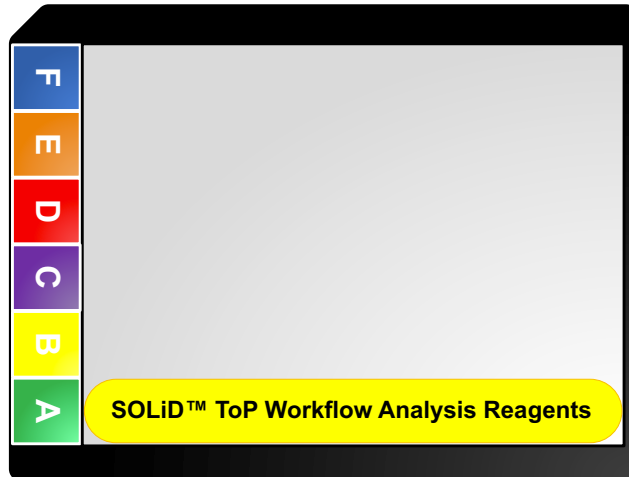
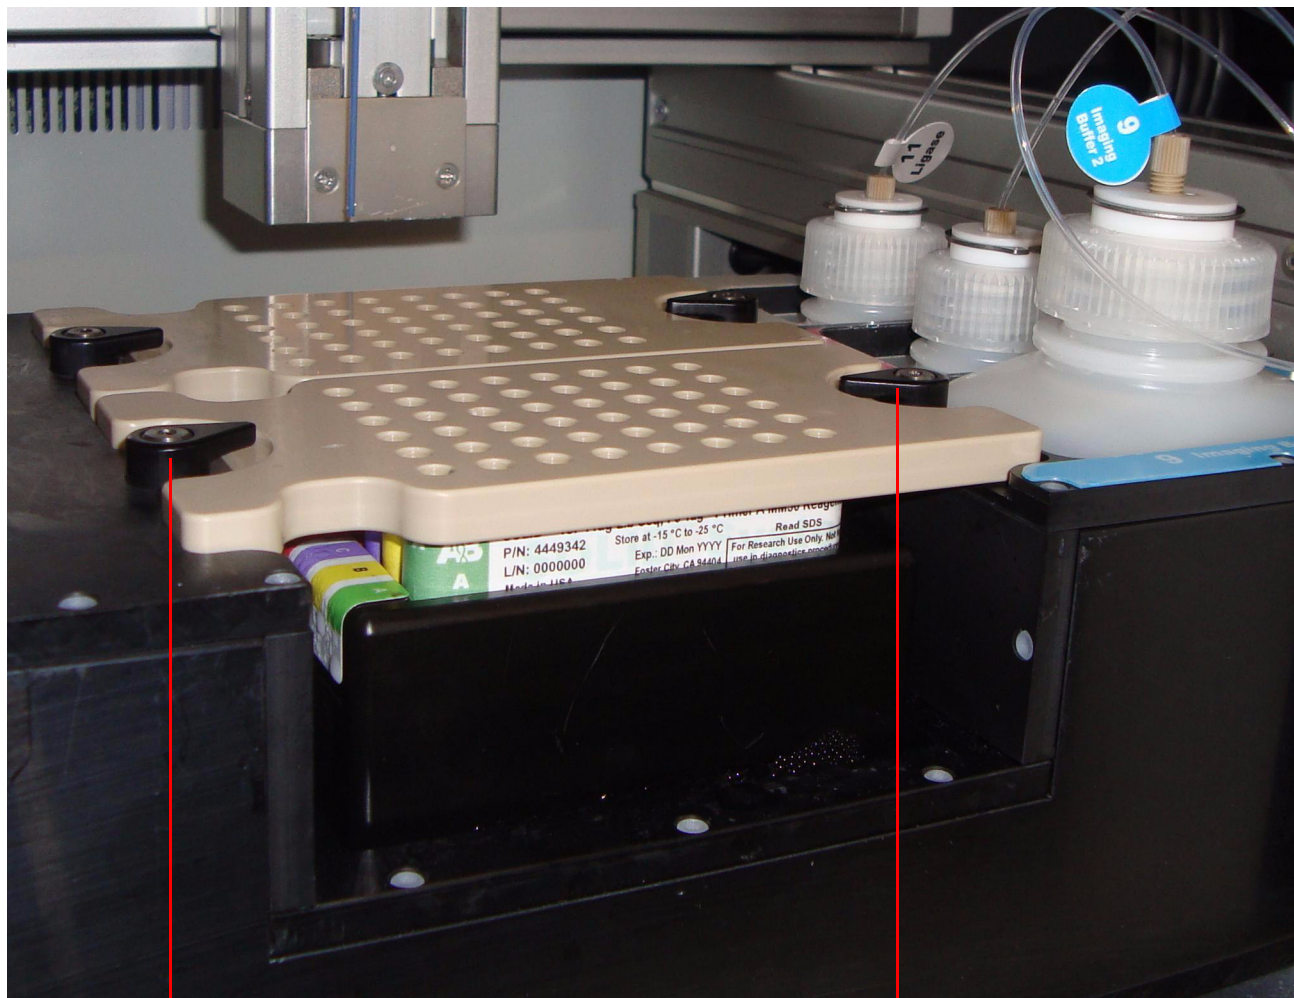

Figure 25 Reagent strip block layout for WFA.
**Figure 28** Position of the sequencing reagent blocks for flowcells 1 and 2.
- When the temperature is less than 10 °C, place the reagents in the appropriate location in the chiller block (see Table 6 and Figure 28 on page 50). See Figures 25 to 27 for the appropriate location of reagent strips on the chiller block. For information about the contents of the reagent strip tubes, see “Reagent strip layouts” on page 151.